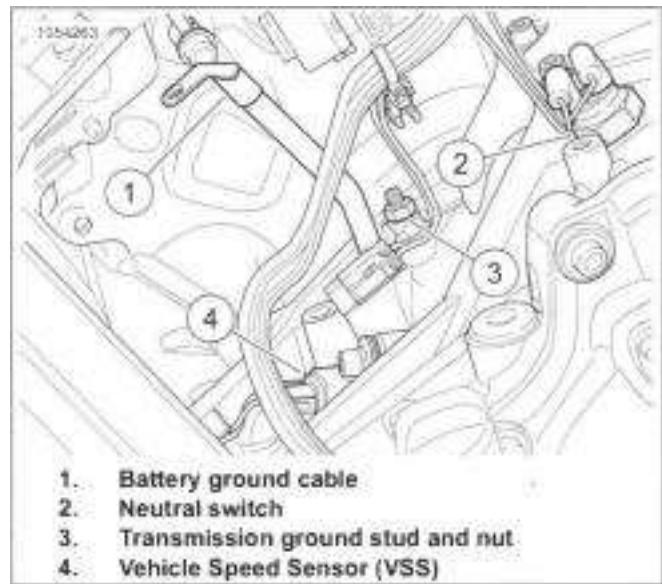

Figure 7-162. Battery Ground Cable: (Starter removed for clarity)
2. See Figure 7-162. Remove battery ground cable (1) on transmission ground stud (3).
1. See Figure 7-162. Install battery ground cable on